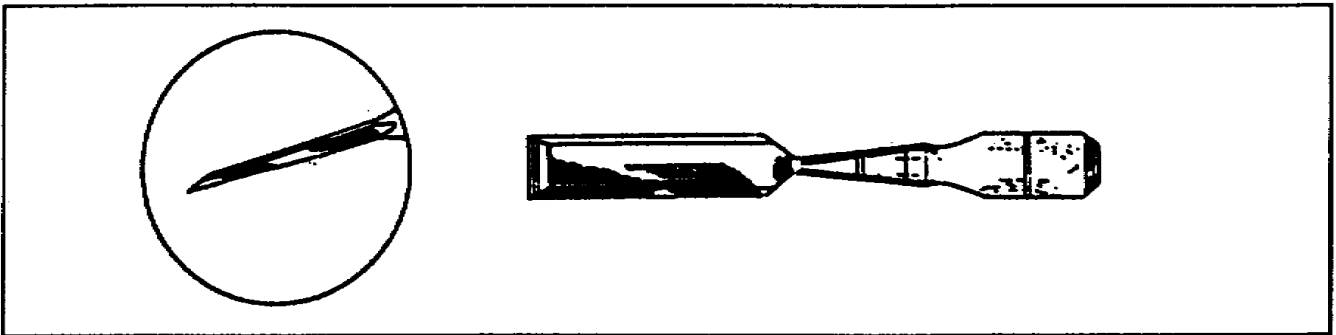

Figure 2-17. Paring chisel
(1) Paring Chisel. A paring chisel (Figure 2-17) is used for shaping and preparing large surfaces. It is used with a steady sustained pressure of the hand and should never be driven with a mallet.